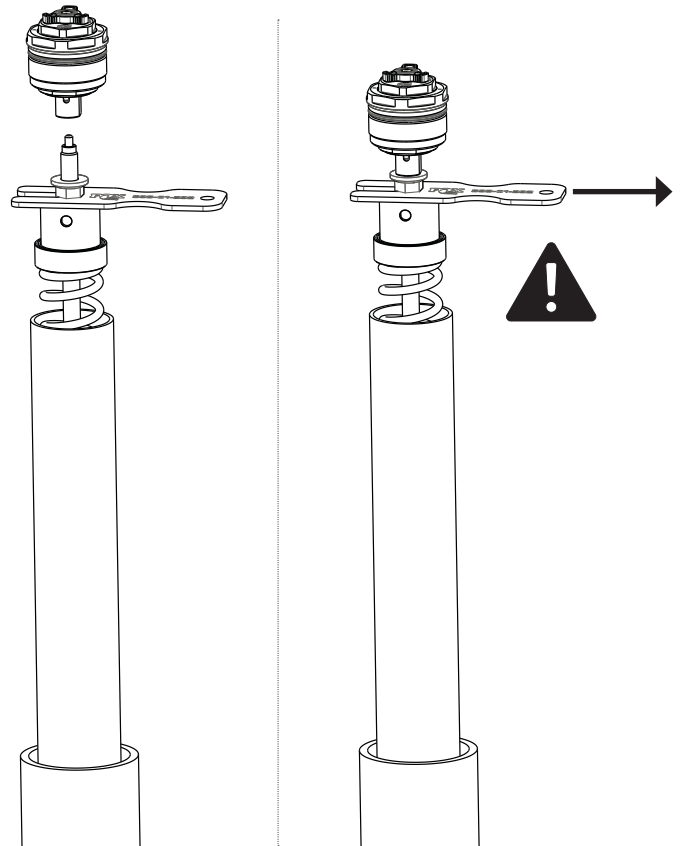

Fig. 15: Thread the top cap assembly onto the shaft; then remove the shaft hold tool
16. Thread the top cap assembly onto the shaft (Fig. 15). Make sure the preload adjuster is at the minimum setting. Ensure that the top cap assembly sits flush on the shaft; there will be a gap between the top cap assembly and the cinch nut.
18. Carefully remove the cartridge shaft holding tool (Fig. 15)